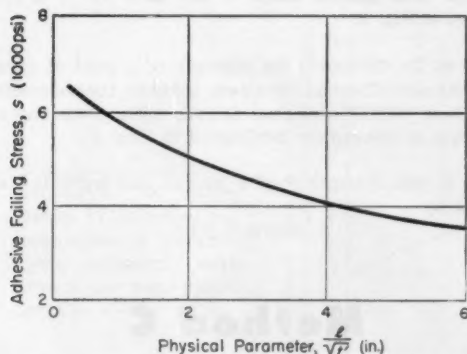

Fig. 2—General shape of curve giving failing stress of adhesive layer as established by the stress formula used in method A.
Step 5: Plot the curve for the stress formula, $s = f(l/\sqrt{t'})$. Because of the usually large variability of test results on adhesive bonds, it is advisable to use statistical methods for this plot (see Appendix, Section 1). In addition to establishing the average curve it is useful to calculate the deviations from this curve for different probabilities of occurrence. The general shape of the curve is given, Fig. 2. The numerical data are different for different combinations of adhesive, adherend, and bonding process. Sometimes instead of being plotted against $l/\sqrt{t'}$, s is plotted against the reciprocal of this quantity, $\sqrt{t'/l}$, called the "joint factor."